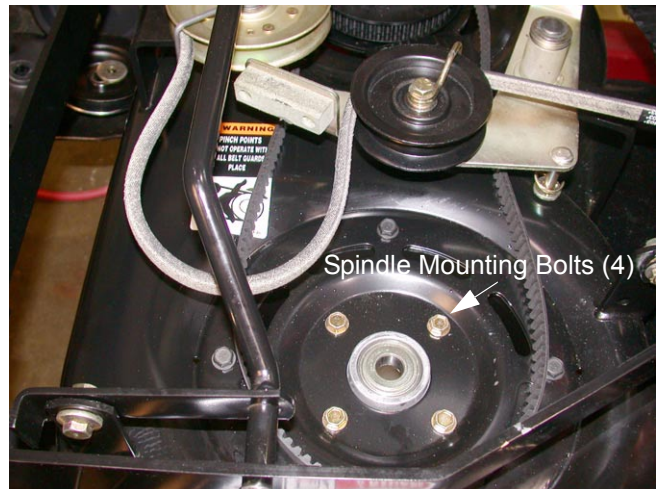

Figure 49
- 13.13. Using a 1/2 inch socket, loosen the four mounting bolts securing the spindle housing to the deck. See Figure 49.